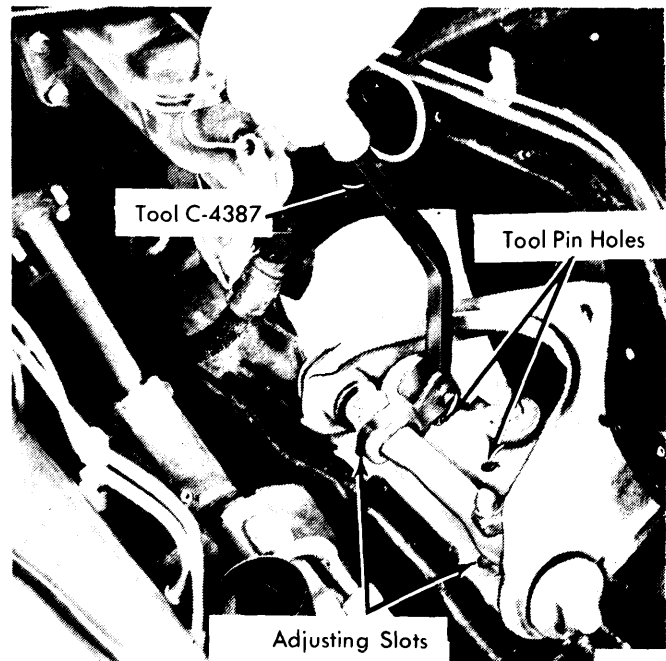

Fig. 9 Slotted Type Camber & Caster Adjustment
1) Check caster and camber readings and compare to specifications. Clean and loosen slightly the caster/camber pivot bar nuts, so that upper control arm may be repositioned in slots. See Fig. 9.